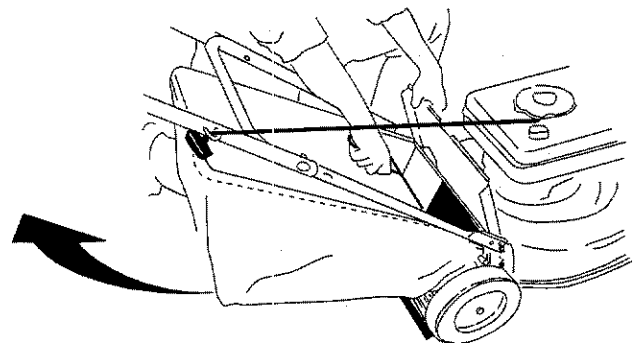

Figure 18
- Lift discharge door and pull grass bag up and away from the mower to dispose of the grass clippings. See Figure 18.